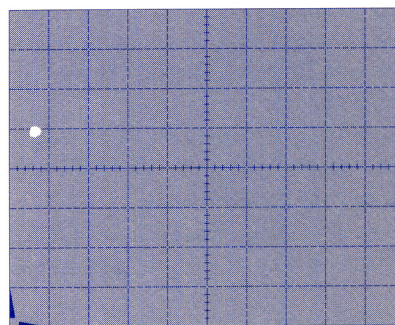

Figure 5-1. Display of forward voltage V_F
- 3) Apply power to device — Position LEFT-RIGHT switch on 177 to appropriate side. Increase VARIABLE COLLECTOR % supply until specified anode current is reached on vertical. [5 divs, or 50 mA]. See Figure 5-1. **34 8**